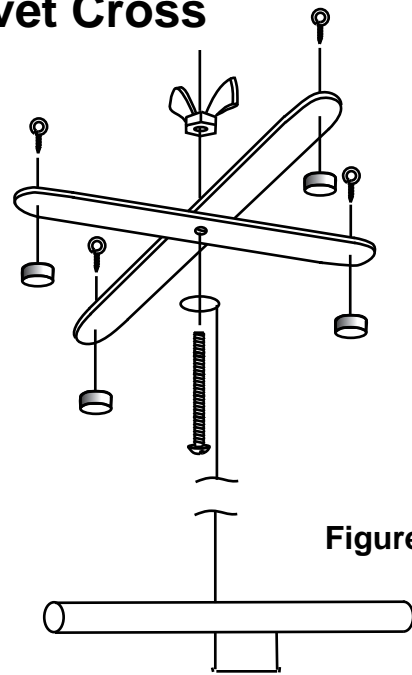

Figure 11
32. Glue two tongue depressors together forming a cross with arms of equal length (**Figure 11**).
34. Drill a 3/16" hole through the center of the cross. Attach the center support to the cross using a 1" #8 bolt and wing nut (**Figure 11**).